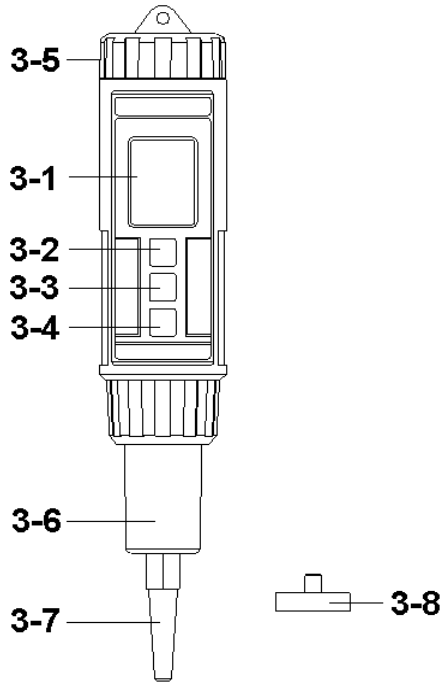

Fig. 1
- a. Connect (Screw) the " Sensing Head " (3-7, Fig. 1 to the bottom of the " Vibration Sensor " (3-6, Fig. 1).
- a. If the measuring surface is a ferrous material, you may consider using the " Magnetic base " (3-8, Fig. 1) on the " Measurement area ", screw the " Magnetic base " (3-8, Fig. 1) to the bottom of " Vibration sensor " (3-6, Fig. 1).
Select the desired function by pressing the " Function Button " (3-4, Fig. 1) once the measurement Function will be present in sequence.
Power on the meter by pressing the " Power Button " (3-2, Fig. 1) once, the LCD Display (3-1, Fig. 1) will light up, the meter is ready for the measurement.
During the measurement, push the "Hold button" (3-3, Fig. 1) to hold the measured value, the LCD will indicate the " HOLD " symbol. Push the " Data hold button " again to release the data hold function and the " HOLD " symbol will be removed.
- 1) Open the " Battery Cover " (3-5. Fig. 1).
- 2) Power on the meter by pressing the " Power Button " (3-2, Fig. 1) once.
2) To replace the battery, rotate and remove the " Battery Cover " (3-5, Fig. 1), take out the old batteries, install new batteries, watching polarity.